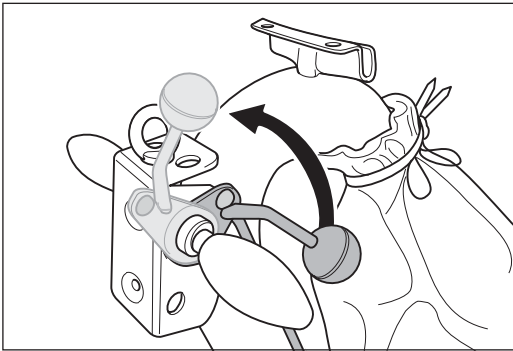

Fig. 66 Lift the sanding drum off the floor by turning the lowering lever at the handle upwards
**During the test run, the sanding drum must be raised off the floor (Fig. 66)!**
- 1 **Lift the sanding drum off the floor by turning the lowering lever at the handle upwards (Fig. 66)!**